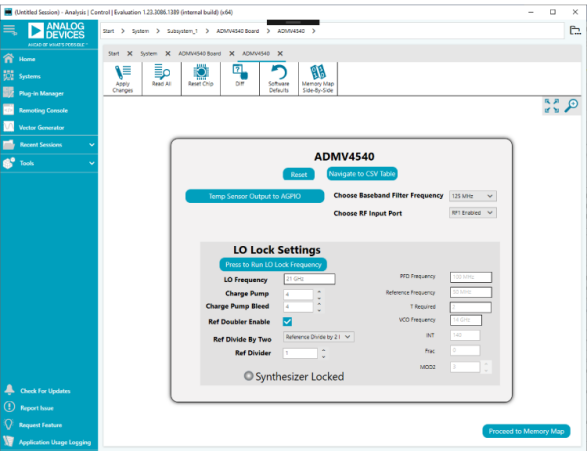

Figure 8. ADMV4540 Block Diagram in the ACE Software
- 7. The **ADMV4540 Block Diagram** in the ACE software then opens (see Figure 8). Note for optimal performance, it is recom-